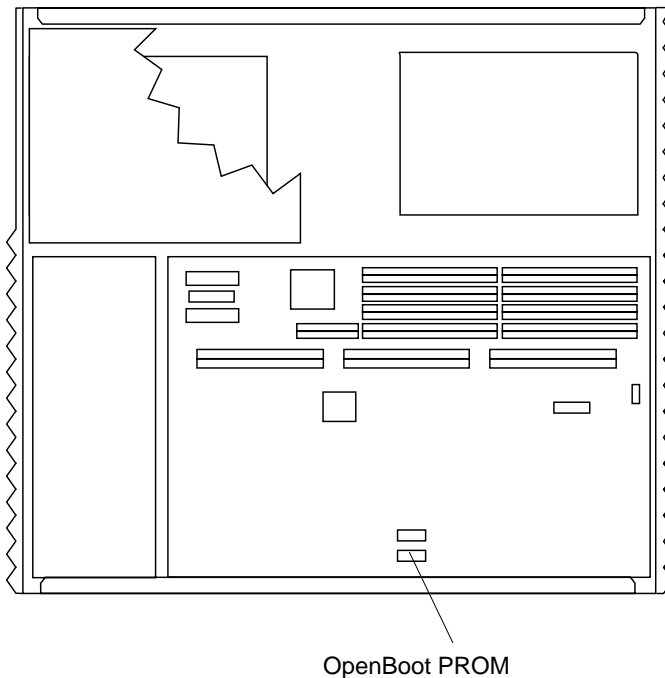

FIGURE 11-43 OpenBoot PROM Location
4. Use a DIP/IC extractor tool or a small flat-blade screwdriver to remove the OpenBoot PROM (FIGURE 11-43).